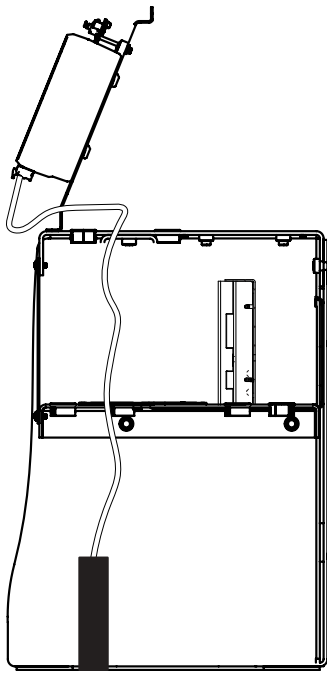

Figure 47. Route Relay Wires
2. Route the relay wires to the SmartTouch 725 Controller (Figure 47).